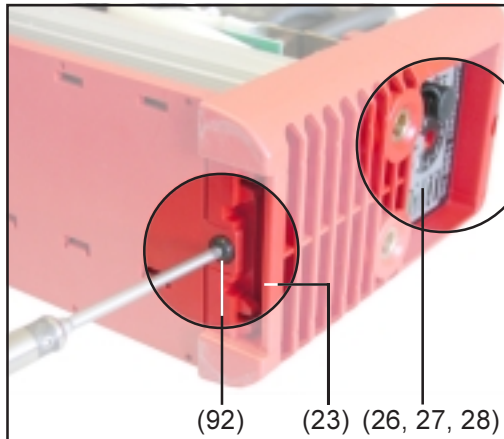

Fig. 17
- **TP 1500 TIG:** Push the gas hose (17) onto the gas connector (93) of the $\ominus$ socket and fasten it with a hose clamp (18) (Fig.17)